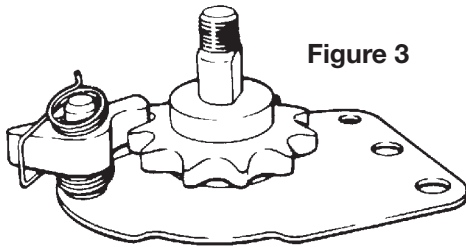

Figure 3
1. Assemble sprocket pin (51) to one side plate (55). Lay this assembly on the bench with the notched edge of the plate nearest you (see Figure 3).
5. Assemble one end of detent pin (23) into the hole on side plate (55) and engage the rounded end of the sprocket (56) (see Figure 3).